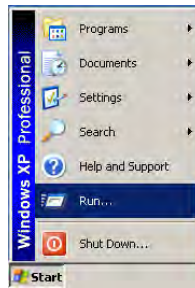

Figure 1-145. Run...
1. On the Windows taskbar, select **Start** and **Run** (Figure 1-145).